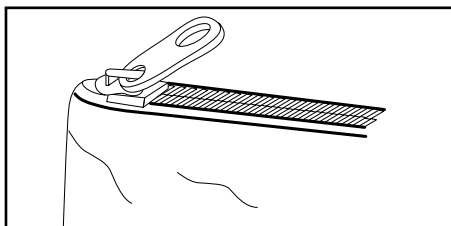

Fig. 11
8. Close the zipper on the bag (Fig. 11).